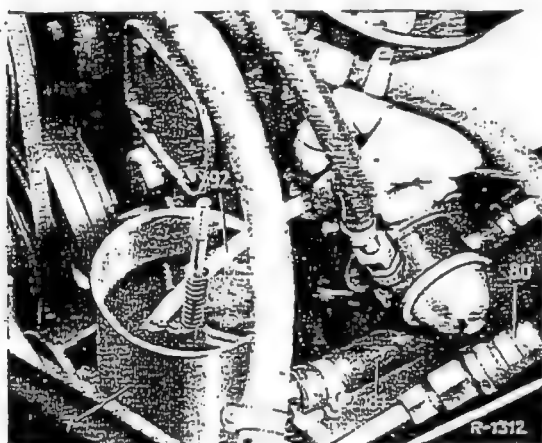

Fig. 46-22/1
3. Push the bleeder hose (92) over the bleed screw of the power steering and insert the end of the hose in the reservoir (7) (Fig. 46-22/1).